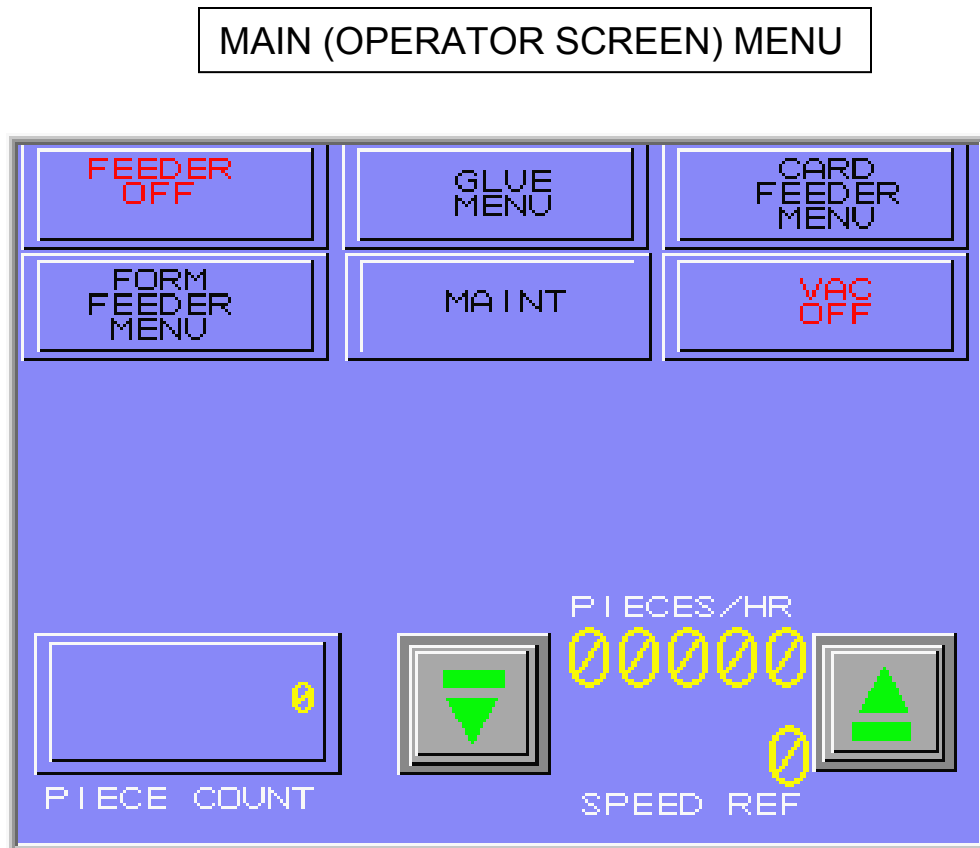

Figure III-16
2. Turn the vacuum pump motor on by pressing touch screen switch on **MAIN** menu displayed on Human Machine Interface (HMI). See figure III-16.